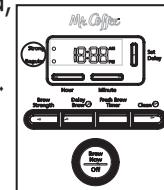

Figure 8
2. To enjoy a more full flavored cup of coffee, press the Brew Strength button once. The STRONG Brew Strength green light will turn on. The coffeemaker will remain in the Brew Strength you have selected until you change it back to REGULAR strength by pressing the Brew Strength button or until you unplug the machine (Figure 8).